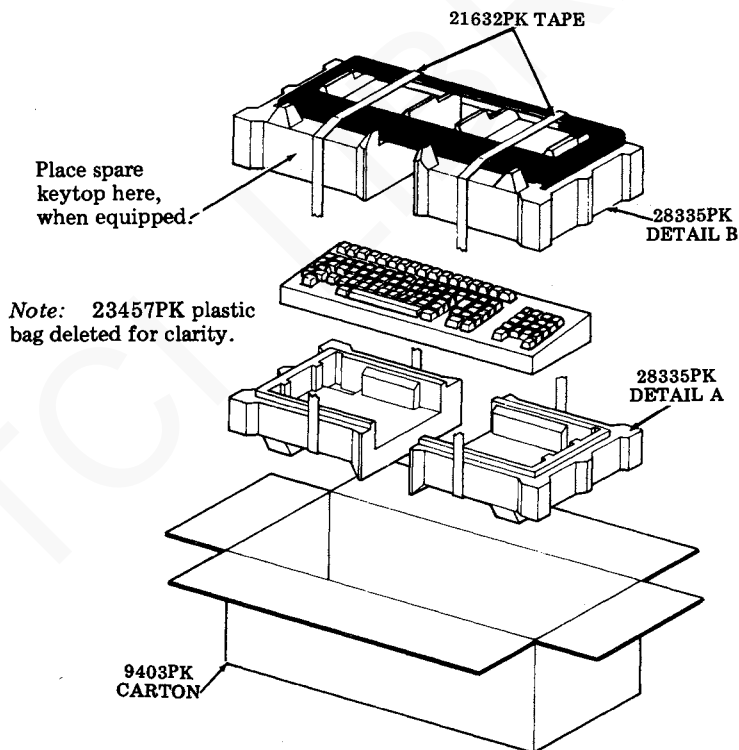

Fig. 52
- Step 1. Place spare keytops in a 21307PK muslin bag and secure in cavity of 28335PK Detail B, as shown in Fig. 52.
- Step 5. Place a 28335PK Detail B cover over opcon as shown in Fig. 52.